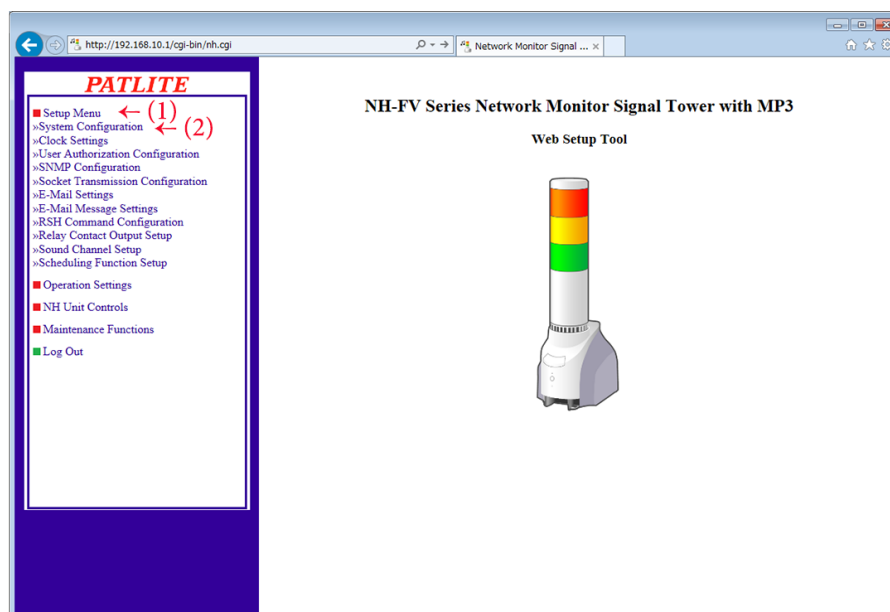

Figure 2.7.2-1 Web Setup Tool Screen
- ① . Click the "Setup Menu" in the Setup Table Entry on the left-hand side of the setup screen.
- ② . Click "System Setup" from the tree menu. The System Setup Screen is displayed. (Refer to "Figure 2.7.2-2")